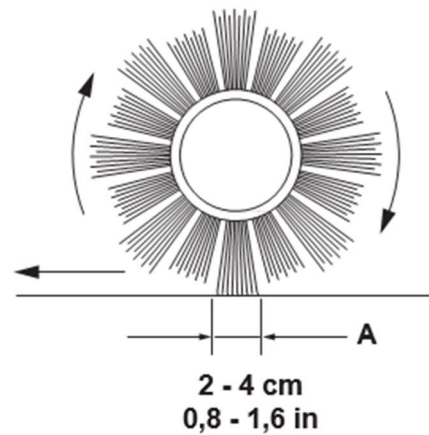

Figure 20
- Check that the main broom print (A, Figure 20), along its length, is 2 to 4 cm wide.
If the print (A, Figure 20) is not within specifications, adjust the main broom height according to the following procedures.
If the print (A, Figure 20) can't be adjusted properly due to different length of bristles resulting in different pressure on the floor, refer to the Service Manual.